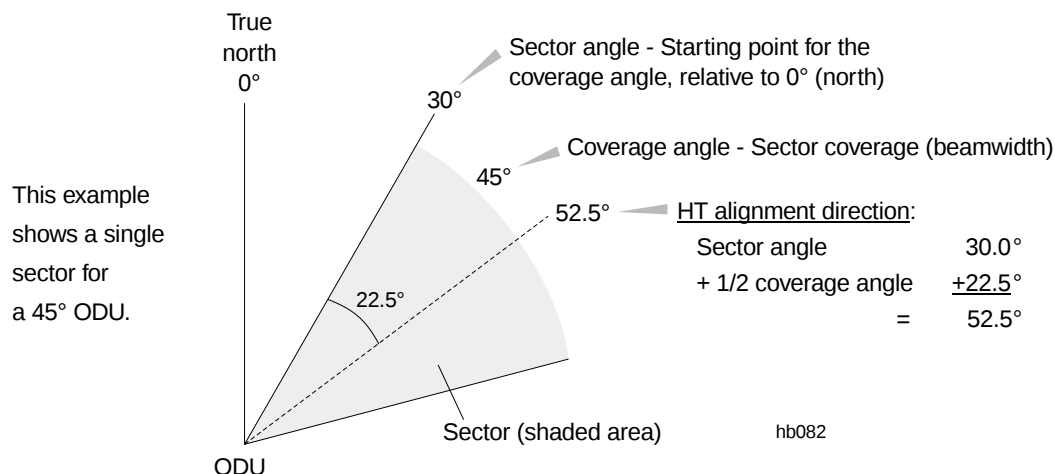

Figure 4-4 HT sector definition and terminology
9. Using the map, directional markings you have made on the roof, the protractor, and landmarks, point the center of the antenna toward the HT alignment direction (i.e., toward the center of the sector, or coverage area) as you install the antenna. (See figure 4-4. Installation instructions for the antenna are covered in sections 4.4 through 4.8.)
Each sector is defined by a sector angle and coverage angle, as illustrated in figure 4-4. However, to align the antenna, you only need to know the assigned HT alignment direction.